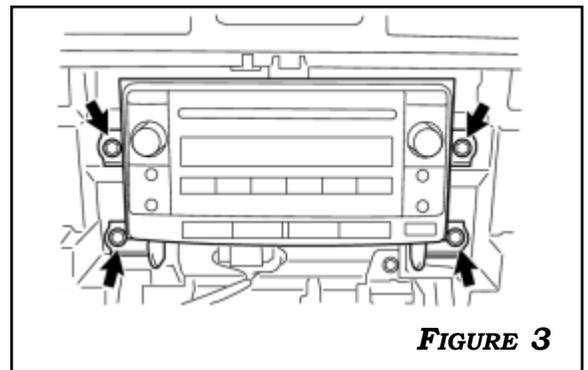

FIGURE 3
3. REMOVE THE 4 BOLTS AND THE RADIO RECEIVER. **FIGURE 3**